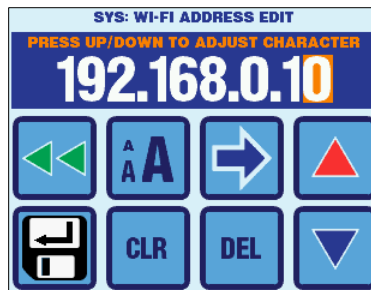

Figure 47 – Wi-Fi Network IP Address Screens
**Network Static IP/Gateway/Subnet Mask** – These settings only apply if the DHCP is set to ON (enabled). They can be set via the screen shown in Figure 47.